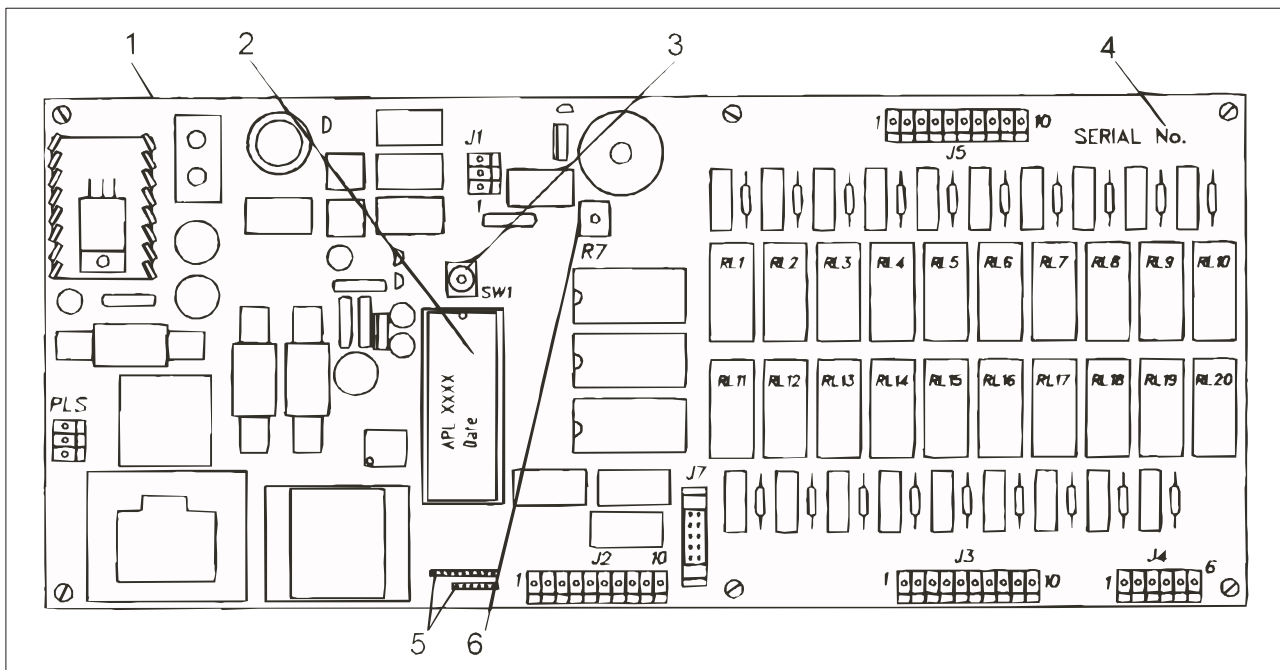

Fig. 8.3
- Remove the connectors (marked „J“) from the circuit board pos. 1, (fig. 8.3) and the little hose for a level measuring.
- Set up the SW1 switch (pos. 3), of a new circuit board to the same position as on the old one.
- Disconnect the keyboard connector fig. 8.3, pos. 5, from the main board pos. 1.
- Remove the microprocessor from its „IC“ base (fig. 8.3, pos. 2).
THE NOTCH IN THE „IC" MUST BE ON THE TOP SIDE (FIG. 8.3, POS. 2).
The viewing angle (fig. 8.5) of the display can be adjusted by turning the potentiometer R7 (fig. 8.3, pos. 6), with a small screwdriver.
The numbered rotary SW1 switch (fig. 8.3, pos. 3), on the programmer board can be used to configure the software for different machine types. Check its correct setting on the new board.